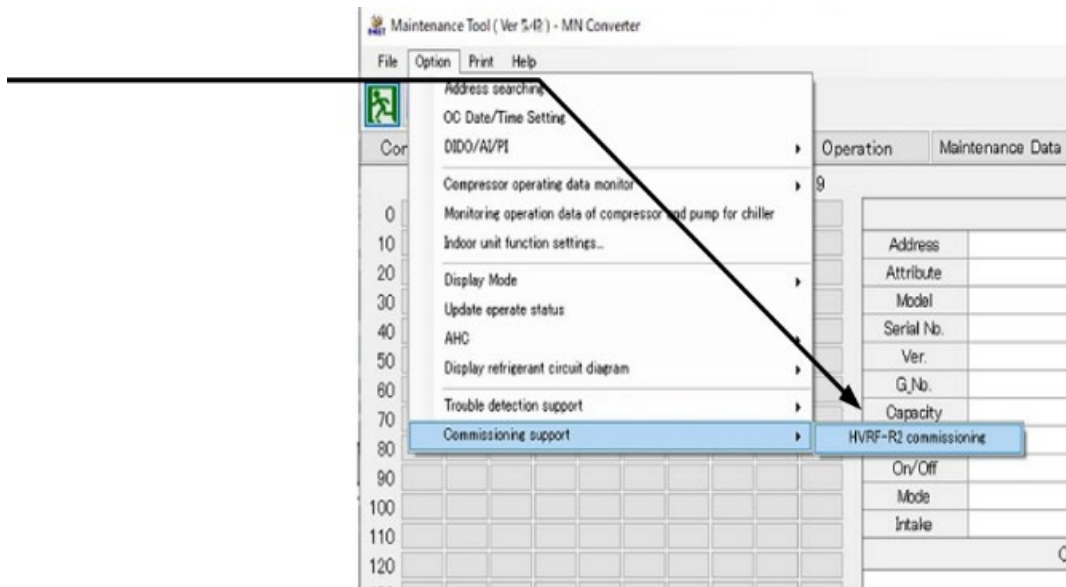

Fig. 15
8. As shown on Figure 15; on the maintenance tool software, Click [Option] > [Commissioning support] > [HVRF-R2 commissioning]